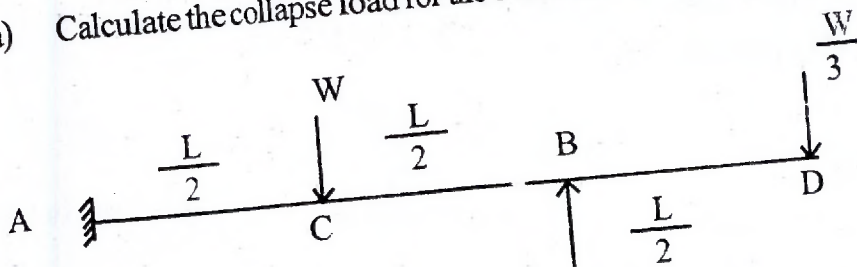

Fig. 4
- Q.5 (a) Calculate the collapse load for the beam of uniform M_p , show in Fig 4. 6